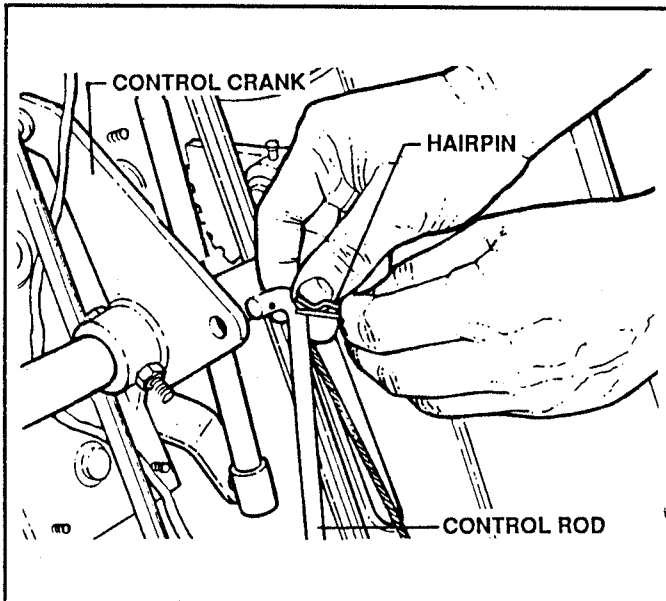

FIGURE 36
7. Remove hairpin from front of CONTROL ROD, then lower CONTROL ROD. See Figure 36.